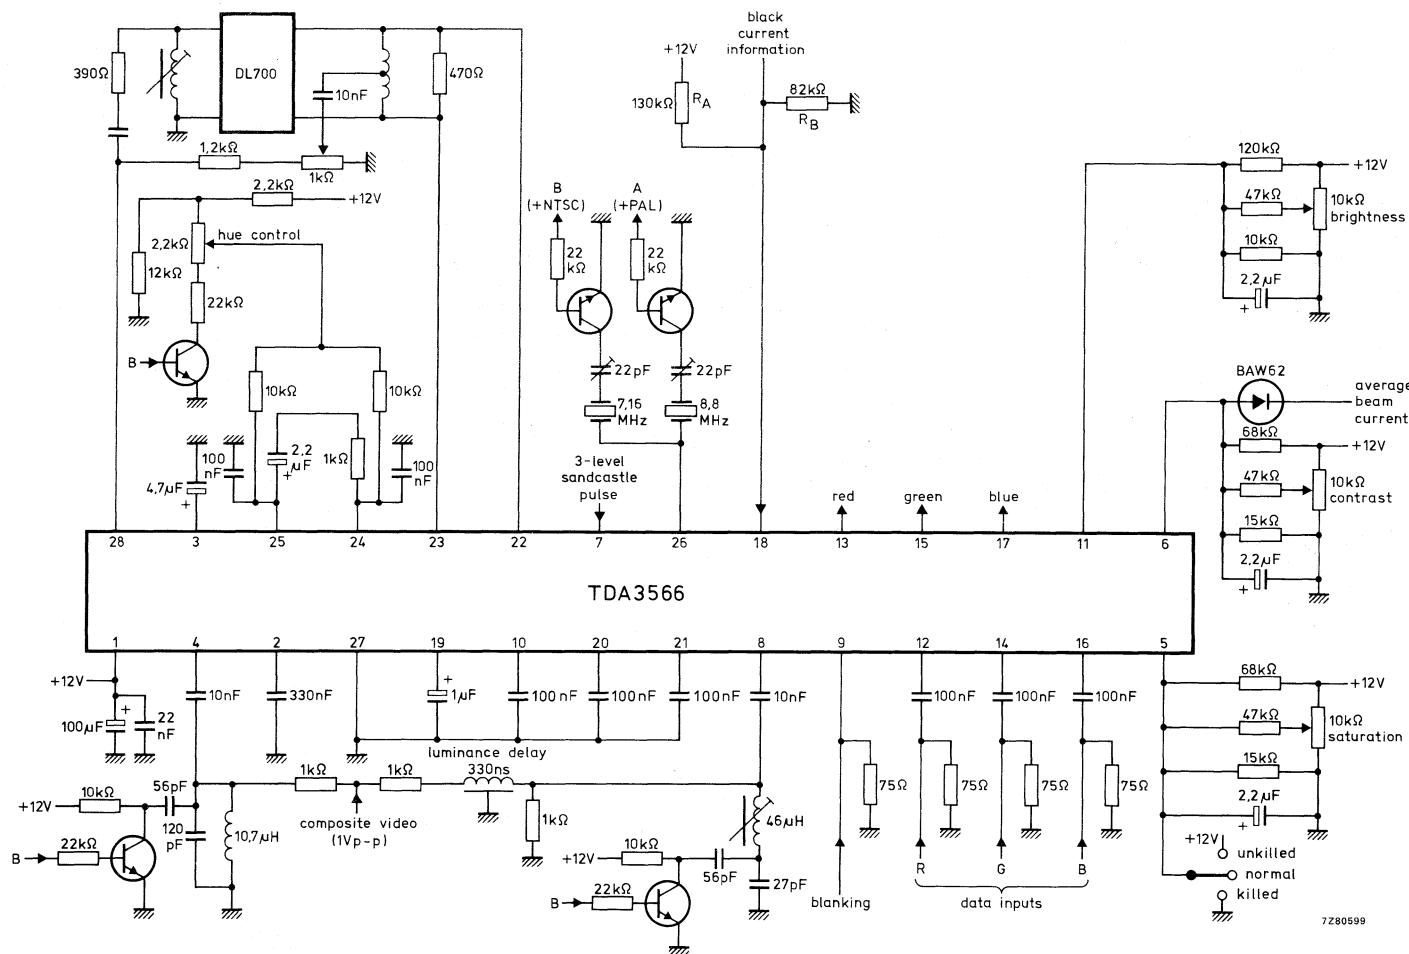

Fig. 8 Application diagram showing the TDA3566 for a PAL/NTSC decoder.
12. The voltage at pins 24 and 25 can be changed by connecting the load resistors (10 k $\Omega$  in this application) to the slider bar of the hue control potentiometer (see Fig. 8). When the transistor is switched on, the voltage at pins 24 and 25 is reduced below 9 V, and the circuit is switched to NTSC mode. The width of the burst gate is assumed to be 4  $\mu$ s typical.